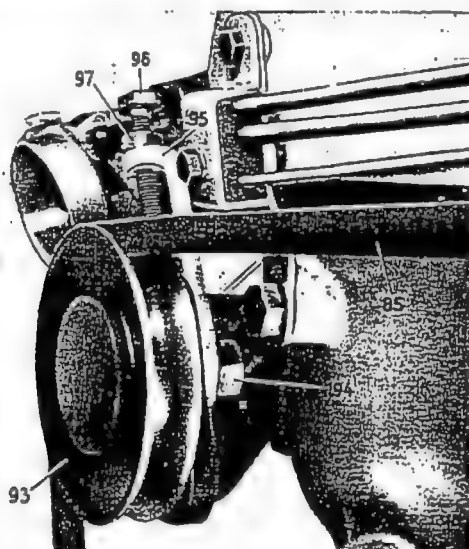

Fig. 46-21/4
In order to re-adjust the V-belt loosen the hexagon nut (97) on the clamping screw (96), then tighten the clamping screw until the prescribed V-belt tension has been obtained. Then re-tighten the hexagon nut (Fig. 46-21/4).